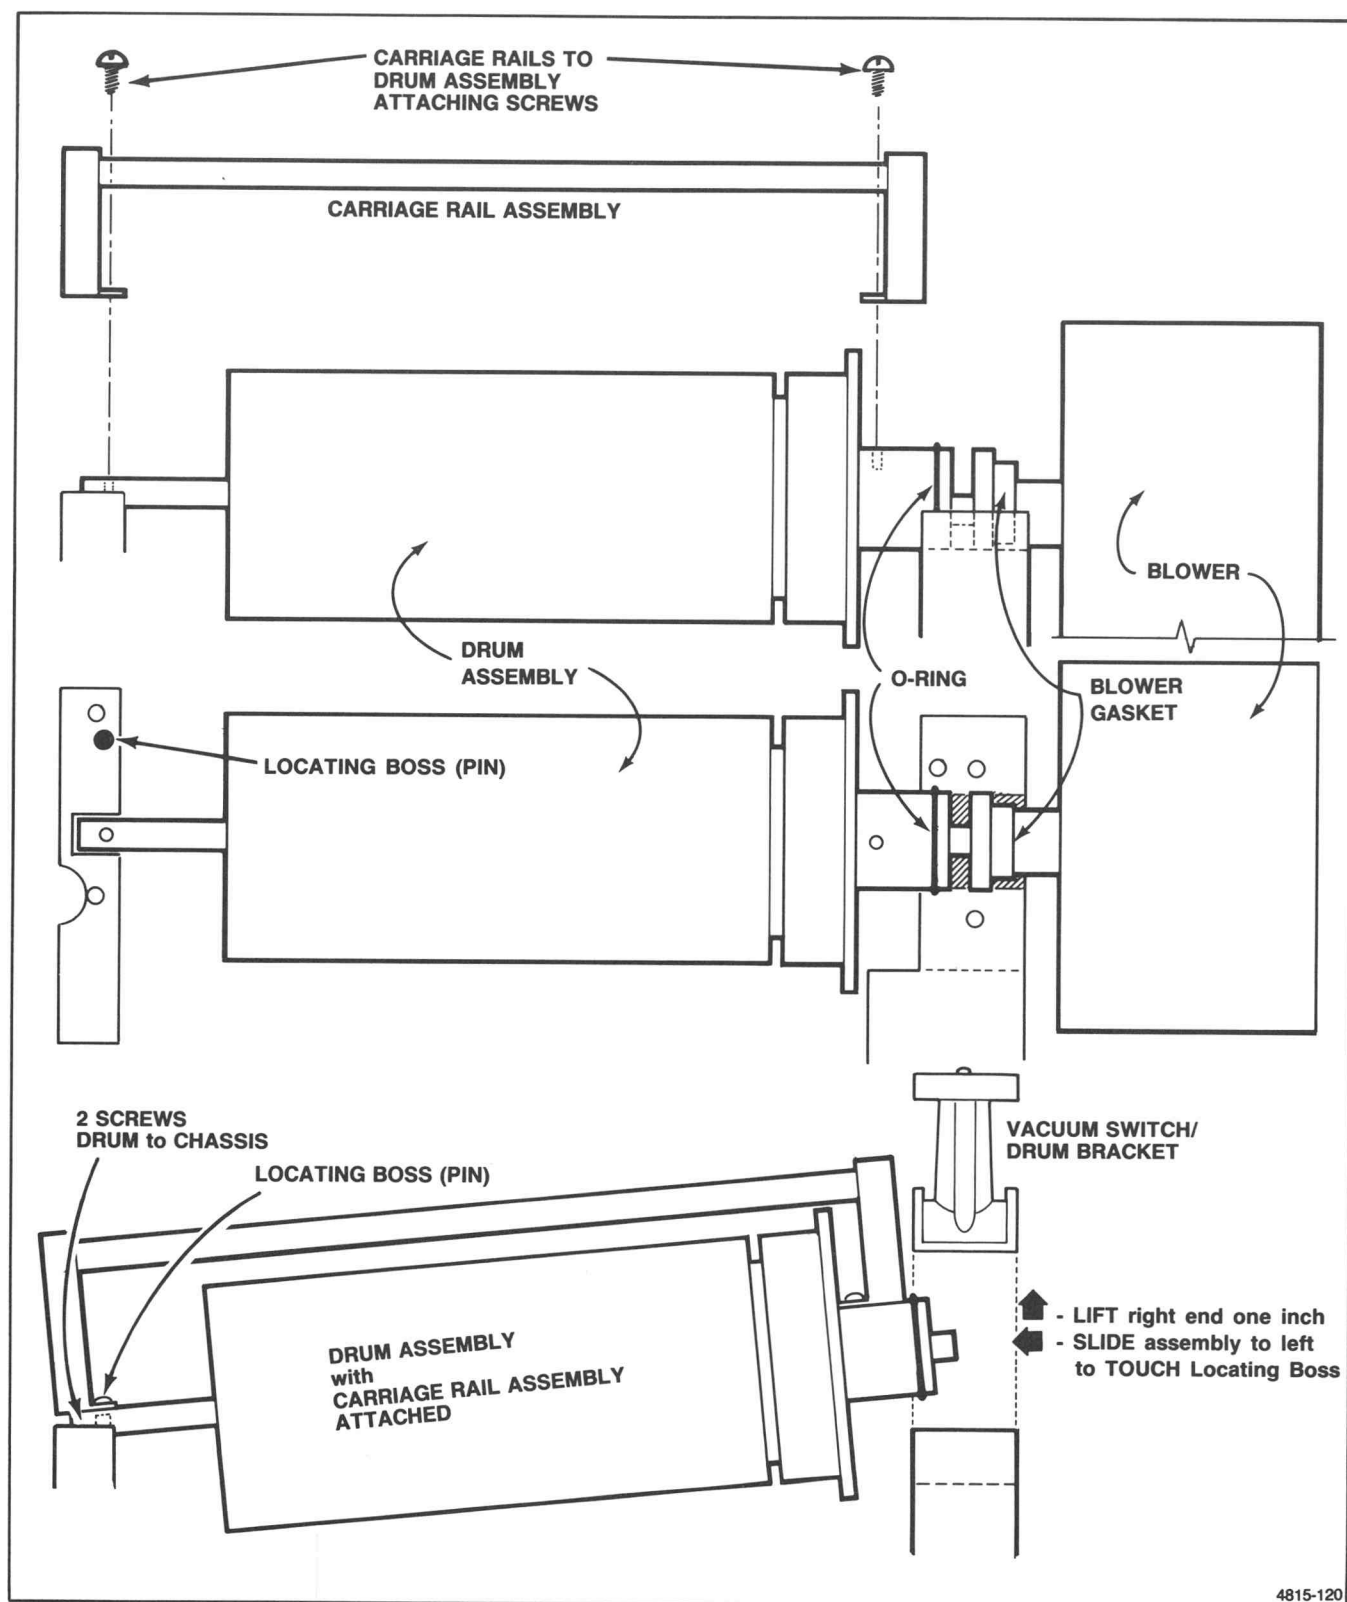

Figure 6-14b. Drum Assembly Replacement.
1. Install the replacement drum assembly (see Figure 6-14b) into the copier with the left end of the drum against the end of the drum shaft slot.